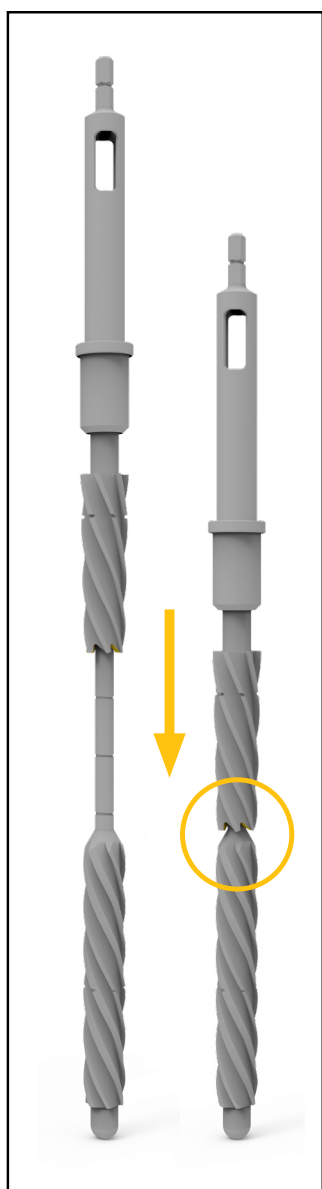

Figure 35
* If the final IM reamer is 16-18mm in diameter, an additional 25mm of reaming is required, resulting in a 200mm ream depth. This is required to avoid interference between the Revision Boss Reamer and the IM reamer cutting flutes (**Figure 35**).